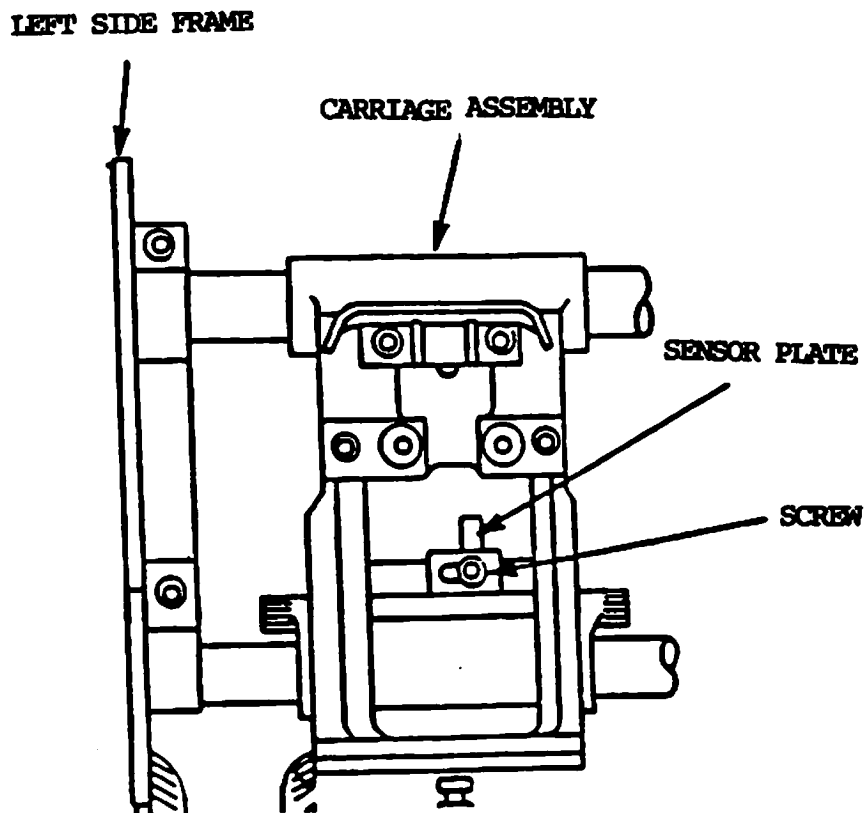

Figure 4-4 Sensor assembly Mounting Screw
4. If you need to adjust the first print position, loosen the sensor assembly mounting screw (see Figure 4-4).